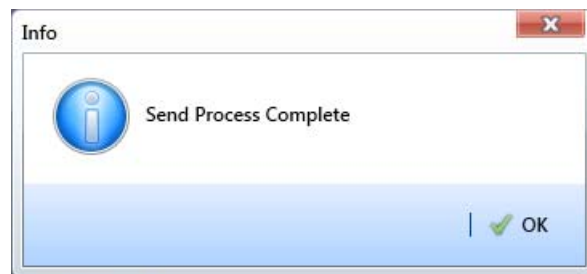

Figure 8-26. Send Process Complete
- 28 When a message displays confirming the send process is complete, click **OK** to close the message (Figure 8-26). PCS Axis sends the survey file to the *PSData* folder on the Allegro.